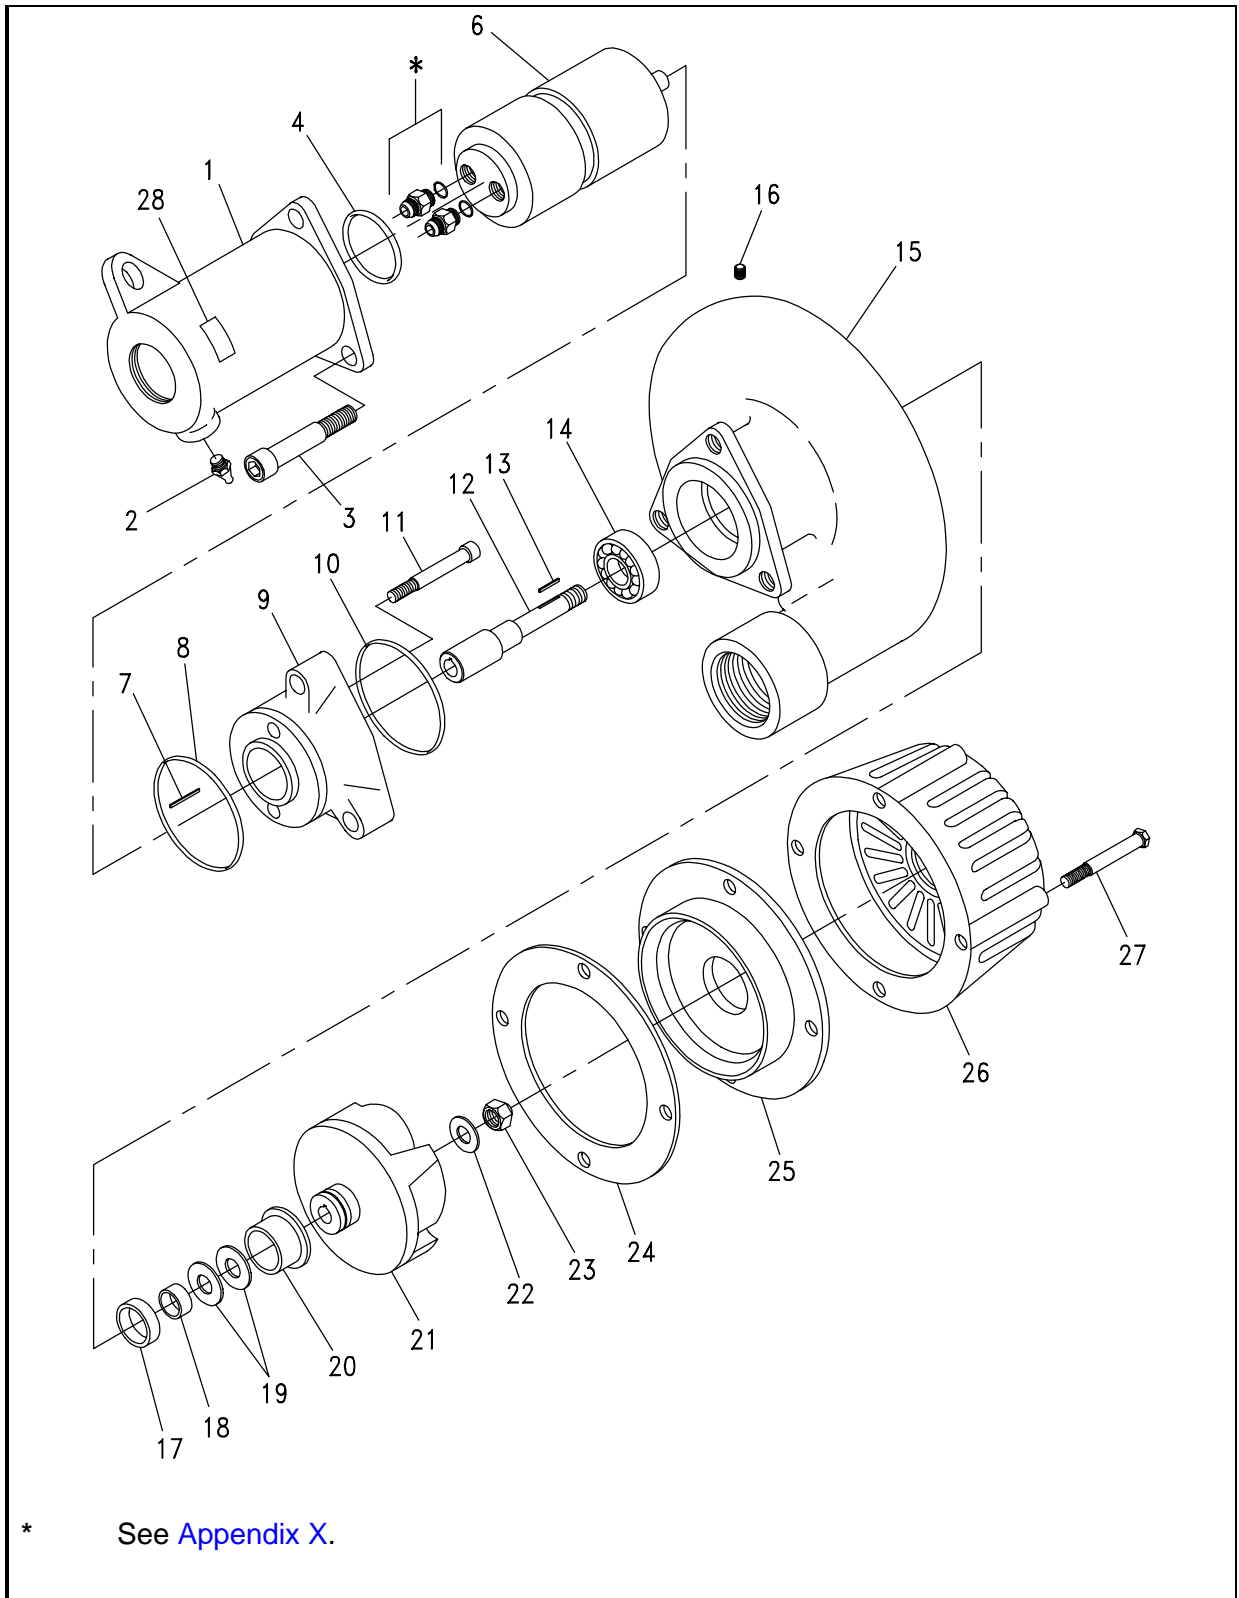

Figure S-2. Sump Pump Components (Sheet 1).
- a. Figure S-2 illustrates parts breakdown for the sump pump.